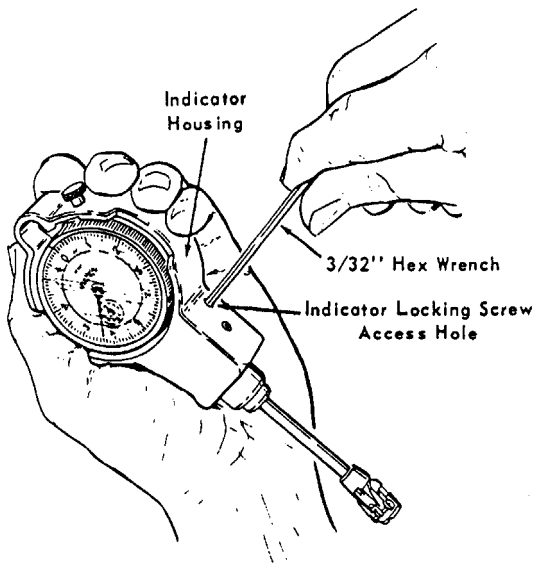

FIGURE 15
1. Insert a 3/32" hex wrench into the access hole and loosen the Indicator Locking Screw no more than 1/2 turn. See Figure 15.